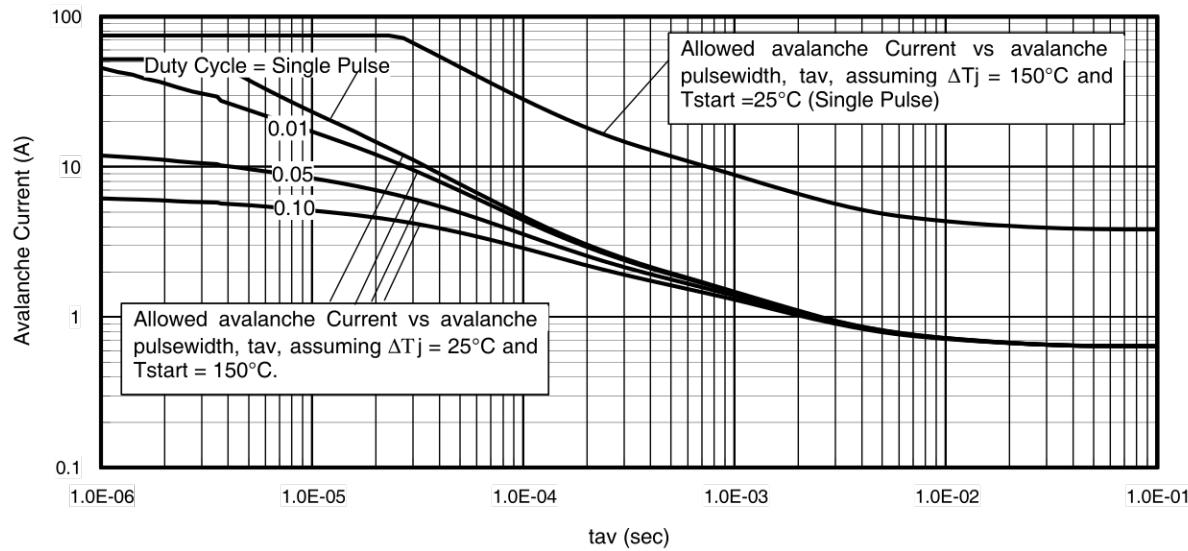

Fig 14. Typical Avalanche Current vs.Pulsewidth
Notes on Repetitive Avalanche Curves , Figures 14, 15:
7. ΔT = Allowable rise in junction temperature, not to exceed T_{jmax} (assumed as $25^\circ C$ in Figure 14).